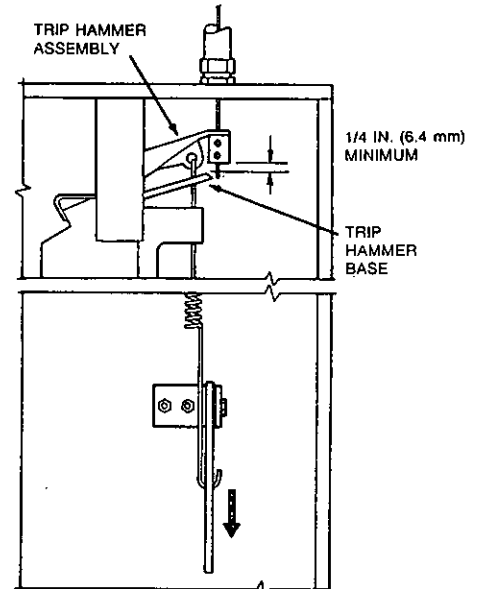

FIGURE 19
28. Inspect the base of the wire rope clamping device to make certain that there is a minimum of 1/4 in. (6.4 mm) clearance between the base of the trip hammer assembly and the cable lever assembly. See Figure 19.